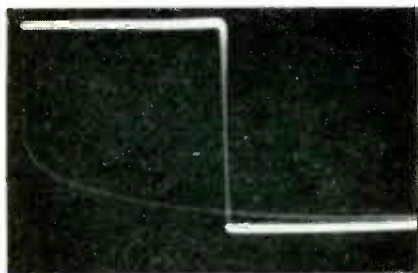
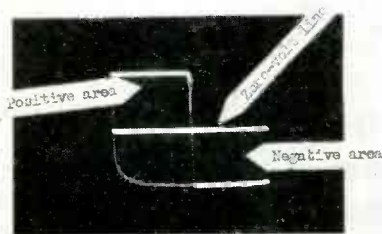

Fig. 2—Typical square wave pattern seen on scope.
Fig. 3—Pattern and zero level.
A. Yes. The square wave is shown in Fig. 2. The relation of the square wave to the zero-volt level is shown in Fig. 3. We expect to find that the positive area of the pattern is equal to the negative area of the pattern, because an ac waveform has just as much positive current as it has negative current. Since the 60-cycle square wave is an a-c voltage, with no dc component, the square wave is displayed in the same position on the screen of an ac scope as on a dc scope.